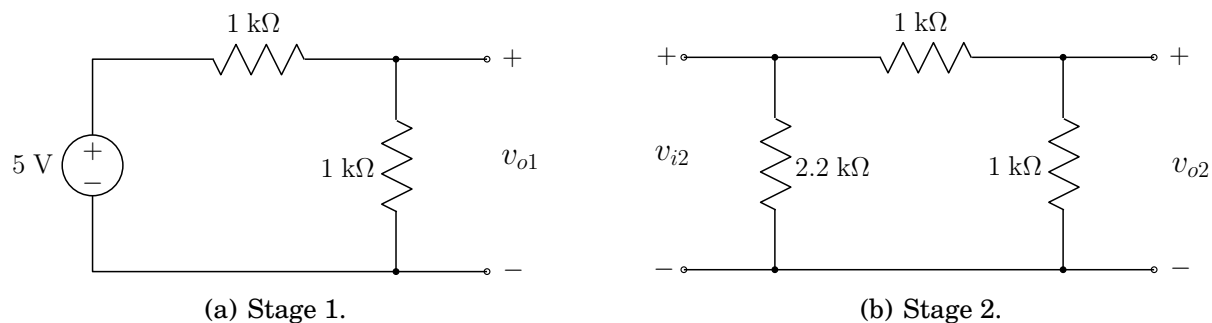

Figure 6.1: A two stage circuit.
1. Let's build the first stage of our circuit, shown in Figure 6.1(a). Measure the output of the stage, v_{o1} .
2. Now you can build the second stage of our circuit, shown in Figure 6.1(b) and [LR 1] apply a voltage source to v_{i2} equal to the value you measured for v_{o1} above. Measure, v_{o2} the output of the second stage.